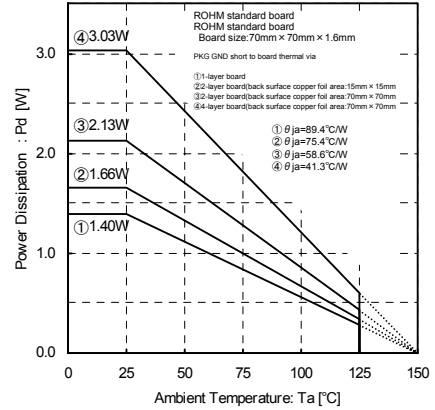

Fig.21
Power consumption Pc(W) calculation will be as below (for Fig.21④)
$$I_o \leq \frac{1.578 - 12 \times I_{cc2}}{12 - 5} \quad \left( \begin{array}{l} \text{Fig.21④: } \theta_{ja} = 41.3^\circ\text{C/W} \rightarrow -24.2\text{mW}/^\circ\text{C} \\ 25^\circ\text{C} = 3.03\text{W} \rightarrow 85^\circ\text{C} = 1.578\text{W} \end{array} \right)$$